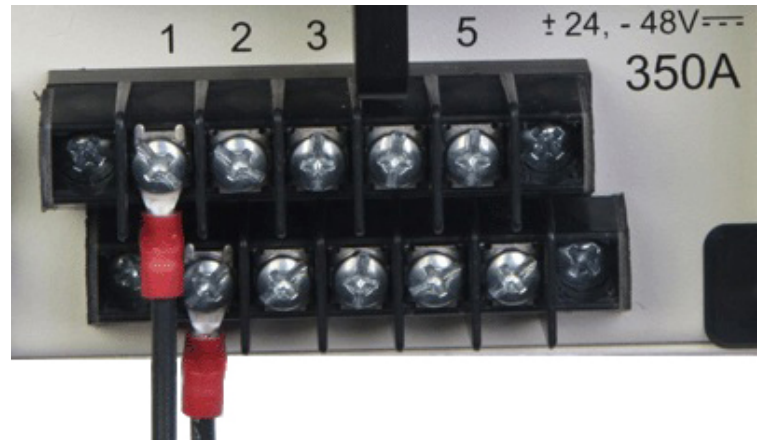

Fig. 8: GMT Output Lug Connections
31. If required, lightly coat antioxidant on the lug/wire and output **BATT** and **RETURN** terminals, and then connect to terminals, as shown in Figure 8. (NEC specifies only one load at each output terminal.)